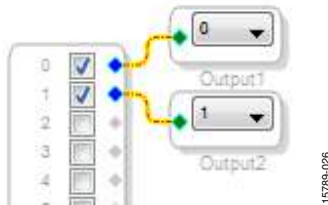

Figure 24. Connected Signal Flow with Stereo Input and Stereo Output
- To connect each input channel to its corresponding output channel, click and drag a line, representing a wire, between the blue pin of the input channel and the green pin of the output channel (see Figure 24). Input Channel 0 connects to Output Channel 0 and Input Channel 1 connects to Output Channel 1.